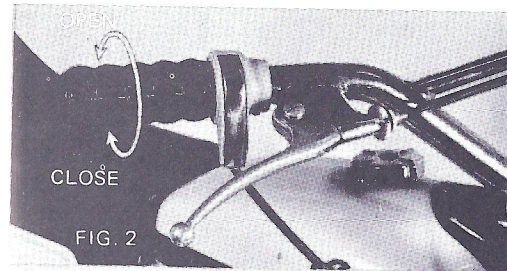

FIG. 2
4. Open the throttle (Figure 2) about  $\frac{1}{4}$  to  $\frac{1}{2}$  turn and kick the kick starter.
6. After about 60 seconds and while still holding the front brake, turn throttle (See Figure 2) slowly until click is heard (Automatic choke disengaging).